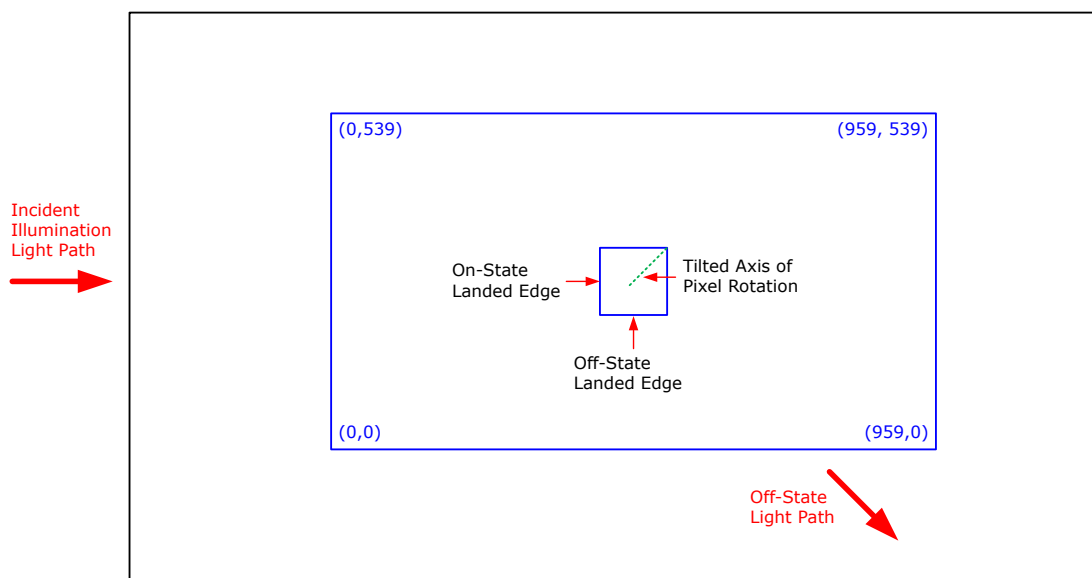

Figure 6-17. Landed Pixel Orientation and Tilt
- (1) Measured relative to the plane formed by the overall micromirror array.
- (2) Additional variation exists between the micromirror array and the package datums.
- (3) Represents the landed tilt angle variation relative to the nominal landed tilt angle.
- (4) Represents the variation that can occur between any two individual micromirrors, located on the same device or located on different devices.
- (5) For some applications, it is critical to account for the micromirror tilt angle variation in the overall system optical design. With some system optical designs, the micromirror tilt angle variation within a device may result in perceivable non-uniformities in the light field reflected from the micromirror array. With some system optical designs, the micromirror tilt angle variation between devices may result in colorimetry variations, system efficiency variations or system contrast variations.
- (6) When the micromirror array is landed (not parked), the tilt direction of each individual micromirror is dictated by the binary contents of the CMOS memory cell associated with each individual micromirror. A binary value of 1 results in a micromirror landing in the ON state direction. A binary value of 0 results in a micromirror landing in the OFF state direction. See Figure 6-17.
- (7) Micromirror tilt direction is measured as in a typical polar coordinate system: Measuring counter-clockwise from a 0° reference which is aligned with the +X Cartesian axis.
- (8) The time required for a micromirror to nominally transition from one landed state to the opposite landed state.
- (9) The minimum time between successive transitions of a micromirror
- (10) Conditions of Acceptance: All DMD image quality returns will be evaluated using the following projected image test conditions: